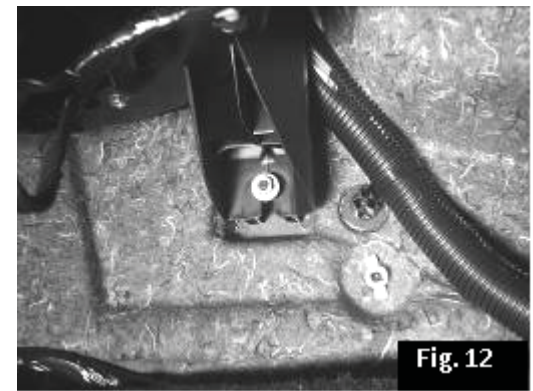

Fig. 12
17. Remove the nut from the stud at the base of the HVAC fan housing. Fig. 12